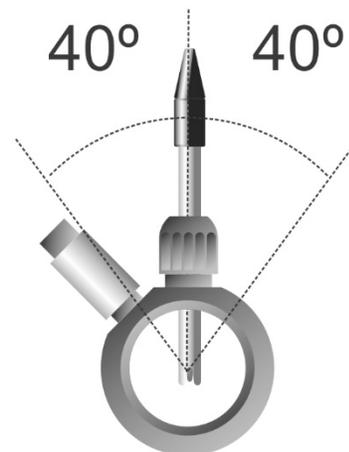

Fig. 3a
4. **Always install the pH/ORP sensors vertically, or with a maximum inclination of 40° (Fig. 3a).**